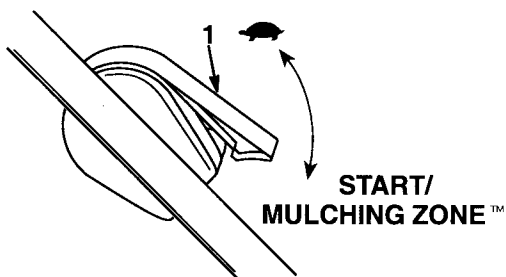

Figure 11
1. Move throttle lever to START/MULCHING ZONE™ position (Fig. 11).
5. When engine starts, move throttle to START/MULCHING ZONE position (Fig. 11).
1. Move throttle lever to SLOW position (Fig. 11).